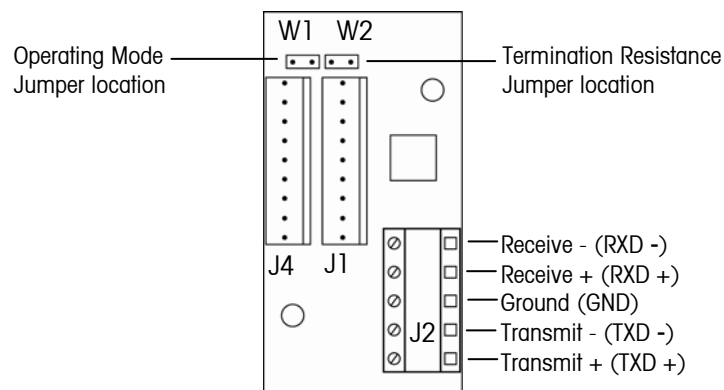

Figure 2.2 RS485 Connections
- Connect the wires to the terminal block J2 according to the Figure 2.2.